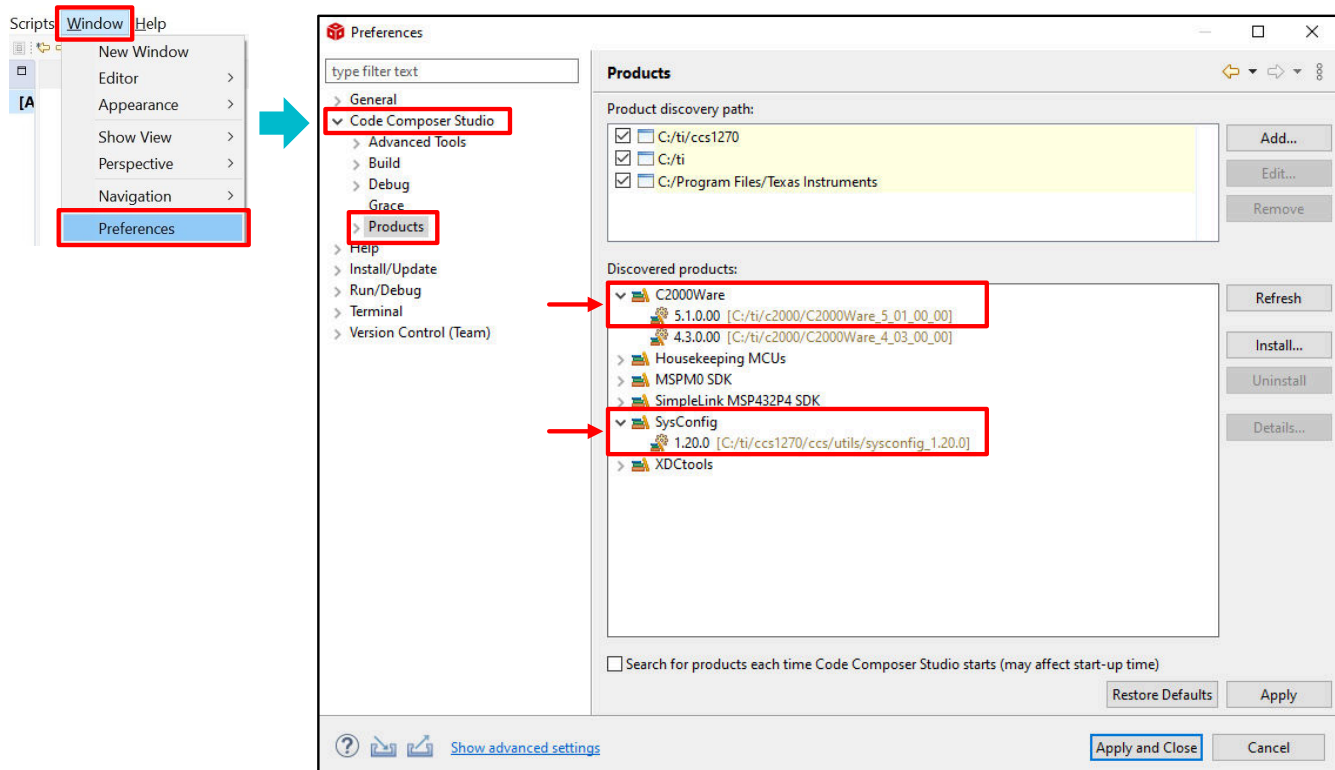

Figure 2-2. Verification of C2000Ware 5.1.0.00 Installation
- b. Make sure that there is "C2000Ware 5.1.0.00" and "SysConfig" (SysConfig should be installed automatically when you install C2000Ware) under the "Discovered products", as is marked in Figure 2-2. If there is no "C2000Ware 5.1.0.00" or "SysConfig" appearing, you may need to click "Refresh" on the right side of the "Preference" window. If still unavailable, check whether the installation is correct. A standalone desktop version of SysConfig can be found at SYSCONFIG System configuration tool.